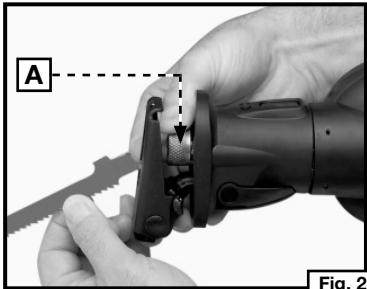

Fig. 2
3. To open the blade clamp, rotate (counterclockwise) and hold the blade release collar (A) Fig. 2 (as viewed from the front of the saw).